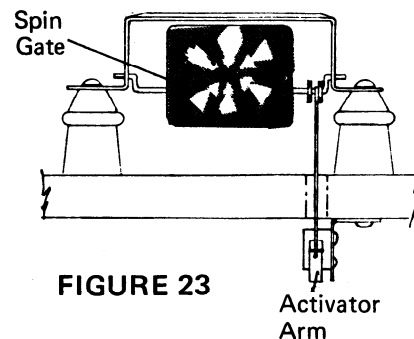

FIGURE 23
32. Slowly rotate the spin gate by hand until a "click" is heard. This is the point where the score is made. To make the Flag score earlier, slightly bend the end of the activator arm down away from the playfield. (See Figure 23).